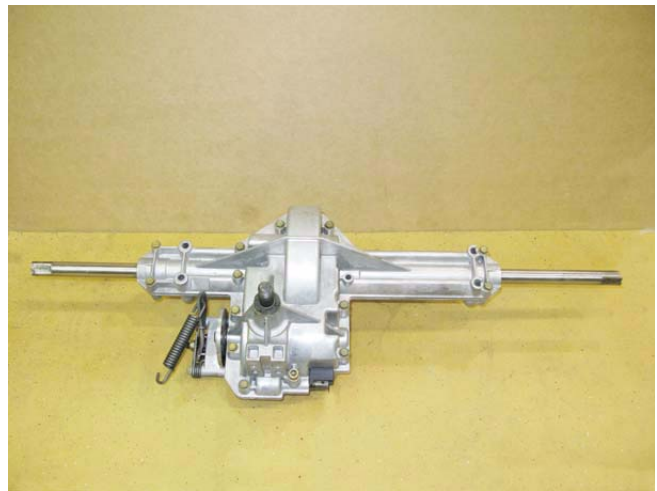

Figure 6.85
1. Assess the damage from the outside; See Figure 6.85.